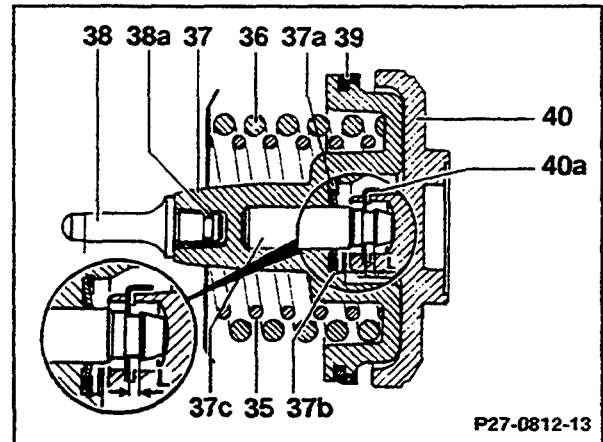
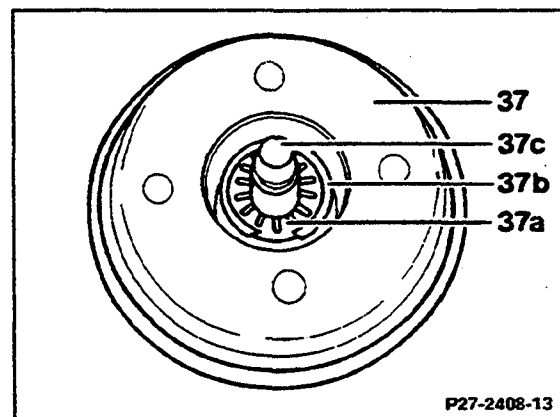

Figure 1
Figure 3
1) To identify if automatic adjusting B1 piston is installed, observe appearance of B1 piston cover (40, Figure 1).
The brake band B1 is **engaged** by the oil pressure build-up between the brake band piston (37) and the brake band piston cover (40). The piston is shifted against the force of return compression springs (35, 36) until brake band B1 is applied. This lifting action of the piston causes diaphragm spring (37a) to pull along pin (37c), while the stroke "L" (inset) is covered first. Lock (40a) always retains pin (37c). If the application travel (stroke) of B1 piston (37) is excessive, the position of diaphragm spring (37a) is shifted on pin (37c, Figure 1). Correct clearance is thereby established.
**For releasing** brake band B1 the oil pressure is reduced. The force of return springs (35, 36) forces the brake band piston back until the pin contacts the brake band piston cover. The locking action of the diaphragm spring (due to the shape of the diaphragm) cannot be overcome by the force of the return pressure springs. During this release action, brake band piston B1 is moved back only by stroke "L" (inset, Figure 1). This corresponds to a release clearance of 1.9 to 2.4 mm.
1. Separate brake band piston from brake band piston cover by pulling piston (37) from piston cover (40, Figure 1).
3. Remove snap ring (37b) in piston (37) with a screwdriver or pointed hook tool. Remove diaphragm spring (37a, Figure 3).
1. Insert pin (37c) into piston (37, Figures 1 or 3). Observe installation position (Figure 3).
2. Slide diaphragm spring over pin until spring contacts piston. Observe installation position (Figure 3 or Figure 1, inset). Insert snap ring (37b). Check for proper seating.
3. Push assembled piston (37) into piston cover (40) until pin (37c) can be heard engaging into clip (40a, Figure 1, inset).
- When installing the complete B1 piston and cover assembly, rotate return springs (items 35, 36, Figure 1) to insure proper seating in brake band guide piece. Using assembly fixture, Special Tool no. 201 589 03 59 00, install brake band piston and cover into transmission housing only as far as required to install retaining snap ring.